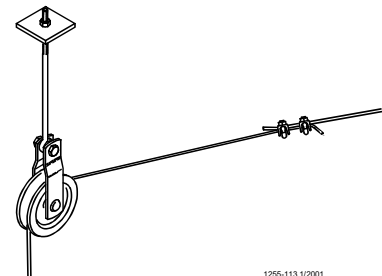
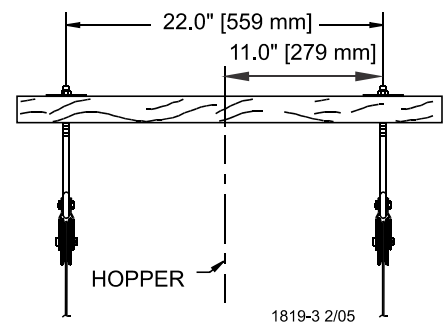

Figure 8. Steel Hopper Suspension
Figure 9. Plastic Hopper Suspension
•Feed Hopper Locations: **When steel hoppers with center suspension are used, see figure 8, the feeder line must be supported within 1' [30 cm] of the feed hopper.** When plastic hoppers are installed only 2 point suspension can be used, see figure 9, this does not require additional supports. See page 13 for plastic hopper suspension. This is in addition to the required Feeder Hopper suspension. After determining the type of suspension system required, decide where the Feeder Line is to be installed. Mark a straight line on the ceiling or rafters the full length of the Feeder Line. Use a string, chalk line, or the winch cable, temporarily attached with staples, to mark the line. Center the line directly over where the Feeder Line is to be installed.